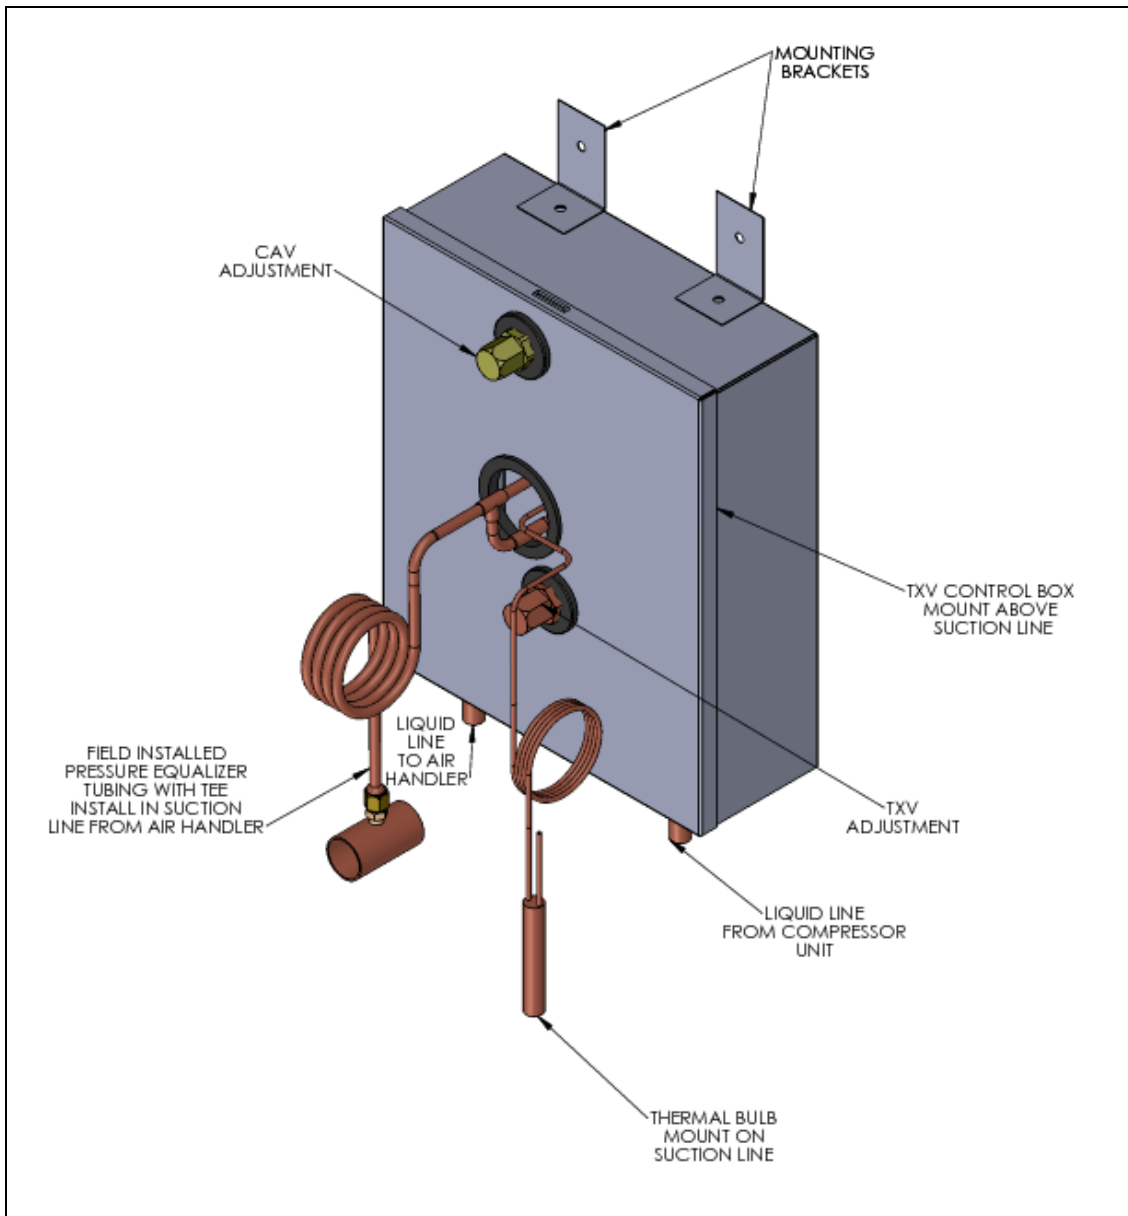
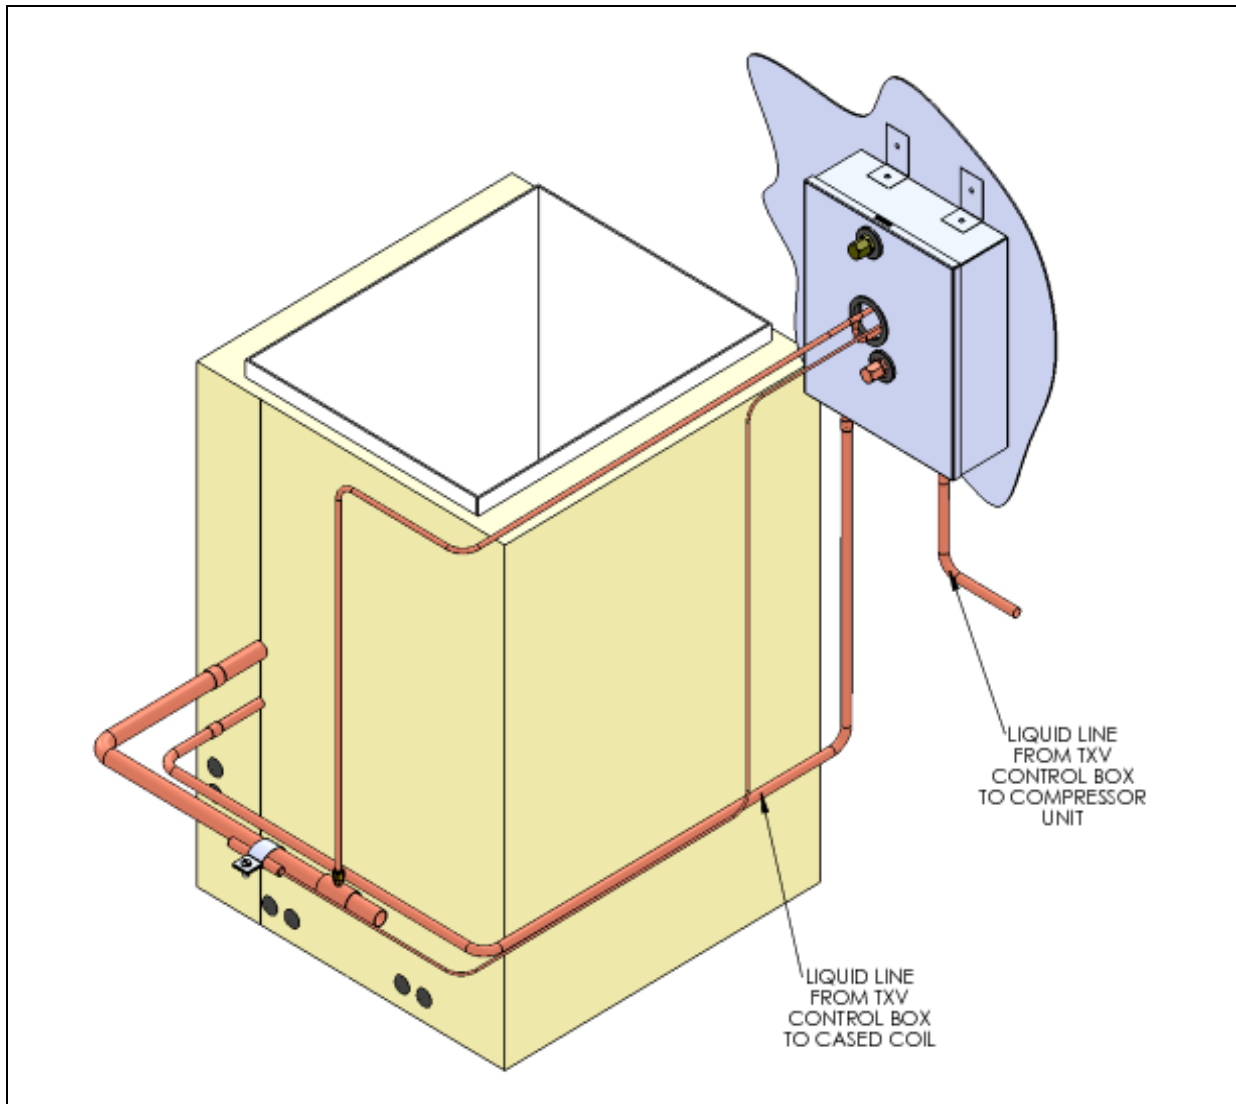

Figure 10. TXV Control
Figure 16. TXV Liquid Line Connections
Figure 10 illustrates the TXV Kit as shipped with the external parts for field installation identified. In Figure 10, the pressure equalizer tubing and suction line Tee are shown connected to the control box for illustration purposes. These parts are shipped with the TXV control box and are field assembled to the control box and to the suction line. The TXV (thermal expansion valve), CAV (cooling assist valve) and interconnecting tubing are located inside the control box to ensure performance.
Step 5: Measure and cut copper tubing to connect the liquid line from the TXV control box to the liquid line stub out on the cased coil as shown in Figures 10 and 16. Run the other liquid line from the connection on the TXV control box to the compressor unit, also shown in Figure 16. Nitrogen braze the joints.